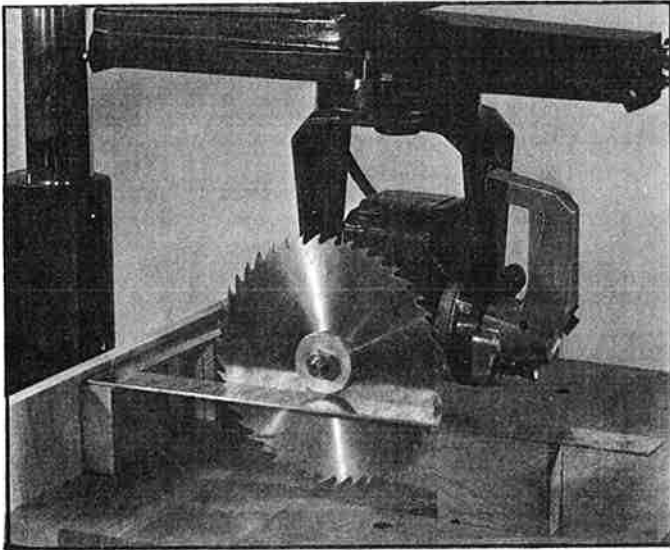

Fig. 31
1. Take a piece of 3/4" plywood, at least 5" wide, and clamp it between the table boards in place of the fence, as shown in Fig. 31.
2. Using three 2x4's, place them on the table, as shown. Lay the square on the 2x4's with one end of the square against the plywood and the other end against the saw blade, as shown in Fig. 31.